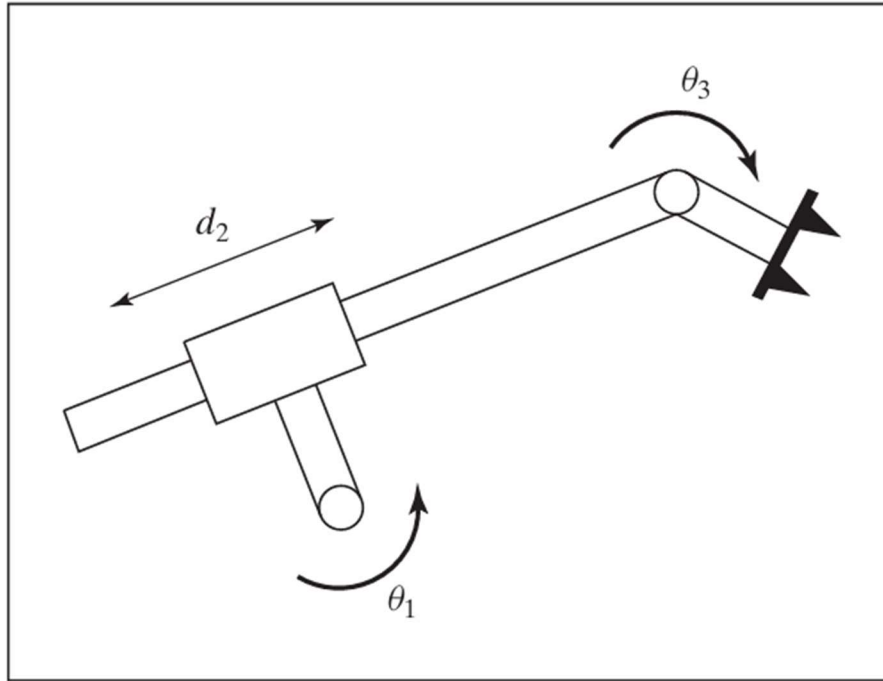

FIGURE 3.36: *RPR* planar robot (Exercise 3.16).
- 3.16** [15] Assign link frames to the  $RPR$  planar robot shown in Fig. 3.36, and give the linkage parameters.